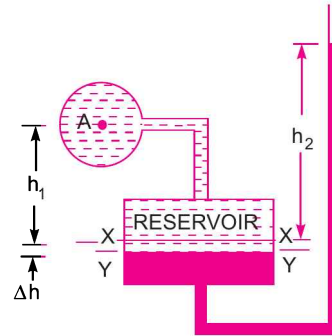

Fig. 2.15 Vertical single column manometer.
**2.6.3 Single Column Manometer.** Single column manometer is a modified form of a U-tube manometer in which a reservoir, having a large cross-sectional area (about 100 times) as compared to the area of the tube is connected to one of the limbs (say left limb) of the manometer as shown in Fig. 2.15. Due to large cross-sectional area of the reservoir, for any variation in pressure, the change in the liquid level in the reservoir will be very small which may be neglected and hence the pressure is given by the height of liquid in the other limb. The other limb may be vertical or inclined. Thus there are two types of single column manometer as :
Fig. 2.15 shows the vertical single column manometer. Let X-X be the datum line in the reservoir and in the right limb of the manometer, when it is not connected to the pipe. When the manometer is
Now consider the datum line Y-Y as shown in Fig. 2.15. Then pressure in the right limb above Y-Y.